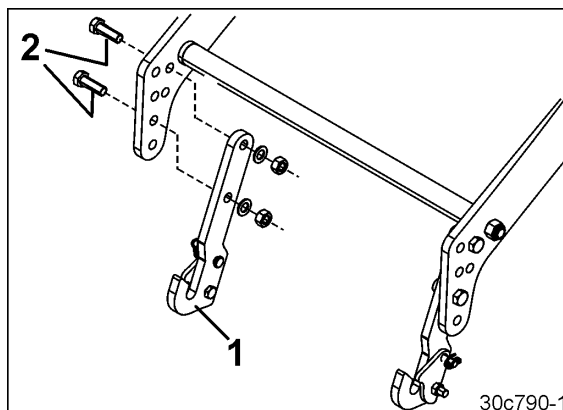

Fig. 93
1. Fasten the catch hooks (Fig. 93/1) to the lifting frame using two screws for each one (Fig. 93/2).